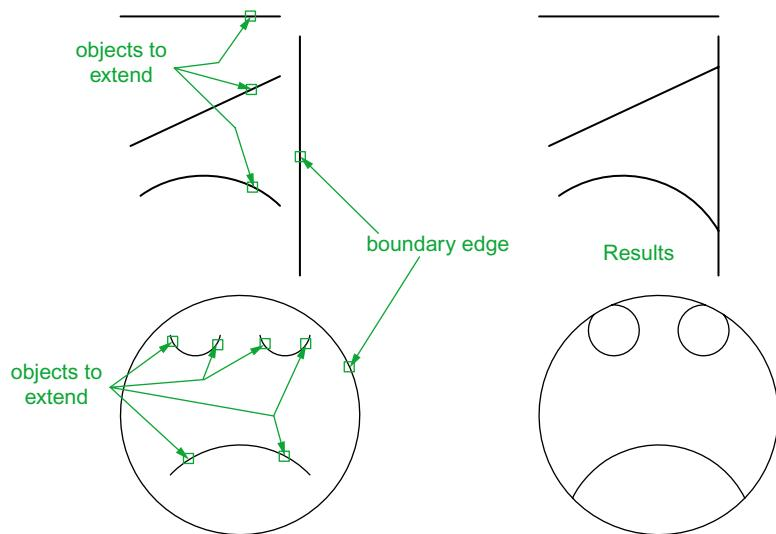

Fig. 5.40 Examples – Extend
### Examples – Extend (Fig. 5.40)
1. Construct plines and a circle as shown in the left-hand drawings of Fig. 5.40.
The results are shown in Fig. 5.40.